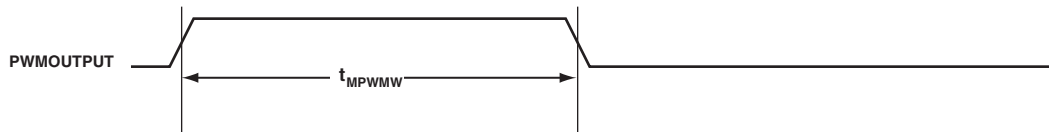

Figure 58. PWM MP Mode Timing, Output Pulse
Table 87 and Figure 58 describe medium precision (MP) PWM operations.